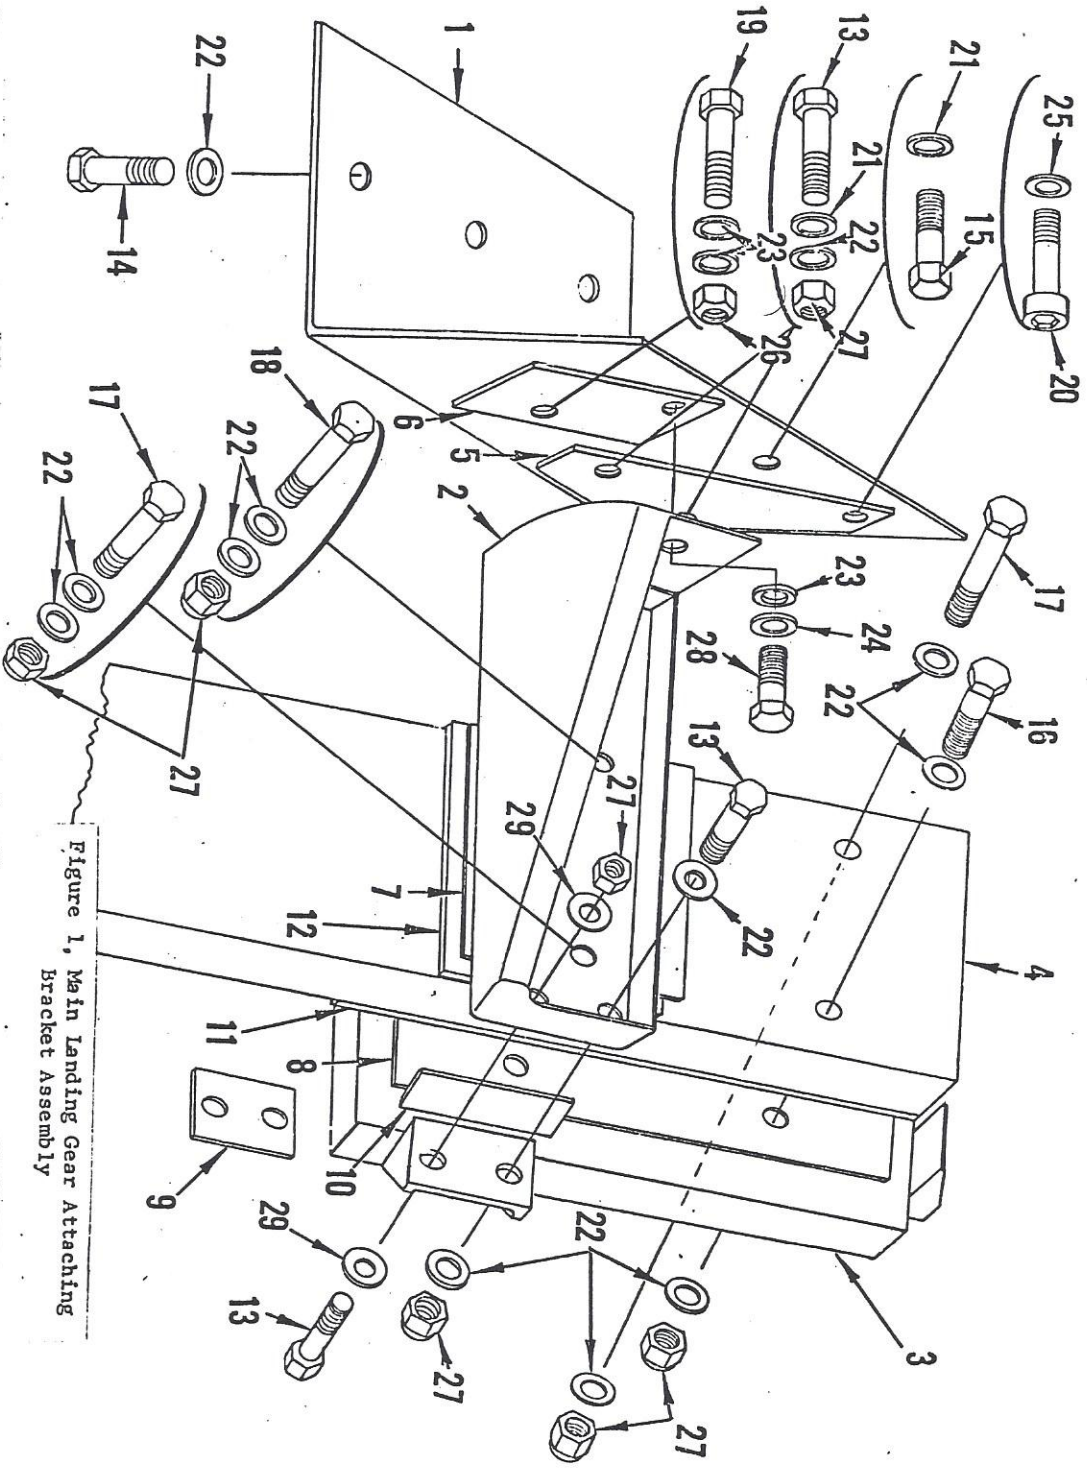

Figure 1, Main Landing Gear Attaching Bracket Assembly
1. Support the 701051-503 "L" angle bracket assembly (1 figure 1) in a soft jaw vise with strut attach side up and level.
2. Attach the 701044-501 bracket assembly (3) to the "L" angle per the Engineering Drawing. Do not install the bolt common to the carry-through spar.
3. Position the strut (4) to the 701044-501 bracket assembly with a 701023-1 phenolic spacer (11) located between the strut and the bracket assembly. Add 701061 shims (8) as required between the phenolic spacer (11) and the bracket assembly so that outboard face of the strut is flush with the flange on the 701044-501 bracket assembly.
4. Attach the 701052-501 bracket assembly (2) to the "L" angle (1) per the Engineering Drawing with one (1) 701024-501 phenolic spacer (12) between the strut and the bracket assembly. Do not install the bolt common to the carry-through spar. Add 701060 shims (7) as required between the phenolic spacer (12) and the bracket assembly (2) so that the strut is captured between the 701044-501 (3) and the 701052-501 (2) bracket assemblies with little or no clearance.
5. The four strut attach bolts may now be installed per the Engineering Drawing and figure 1.
6. Install 701041 (10) shims as required between the aft face of the strut and the flange of the 701044-501 (3) bracket assembly so that little or no clearance exists. Bend the shim edges around the flange to hold them in place.
7. Install 701062 shims as required and the two remaining bolts which attach the flange on the 701044-501 bracket assembly to the 701052-501 bracket assembly per the Engineering Drawing and figure 1. The upper bolt attaches the brake line support.